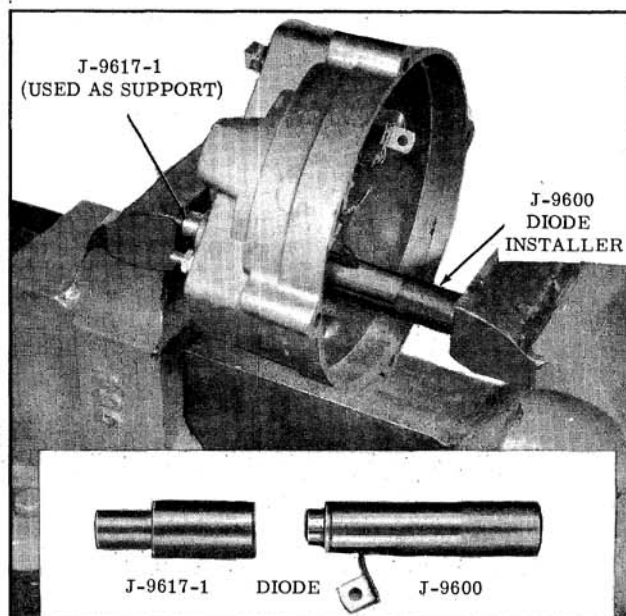

Fig. 13-38 Diode Installation
1. Insert a diode into Tool J-9600 as shown in inset, Fig. 13-38.
2. Position Tools J-9617-1, J-9600 (with diode) and end-frame as shown in Fig. 13-38.